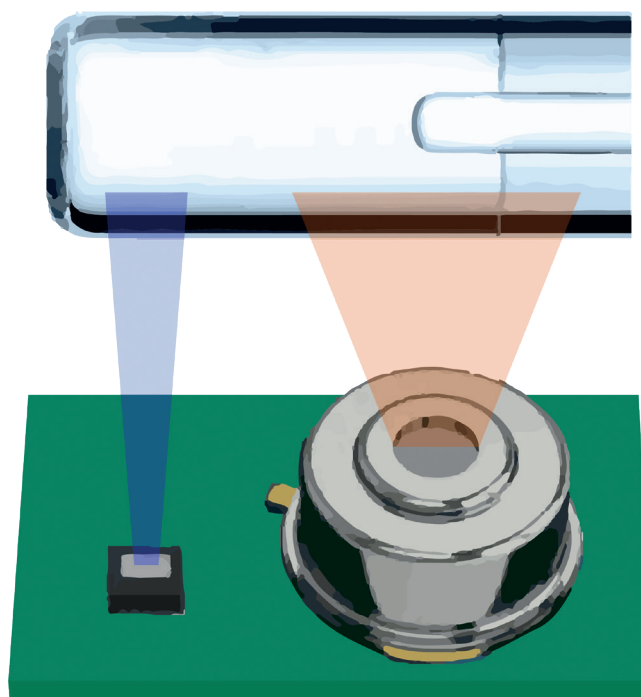

Figure 5: Infrared temperature sensor in both SMD and TO-can packages. Narrow FOV and optimum distance from the cartridge must be selected for accurate sensing.
Small IR thermal sensors with narrow FOV and excellent thermal stability, even in thermally challenging conditions, have been recently deployed to fulfill the demands of this forthcoming class of medical device (Figure 5). This is essential expertise in this application. The latest generation of IR sensor integrated circuit (IC) can draw as little as hundreds of microwatts (μW) of power, even while executing measurements continuously, with a sensor that remains active without entering any sleep-mode states. That represents a considerable achievement for enabling power-sensitive implementation in battery-powered autoinjectors.